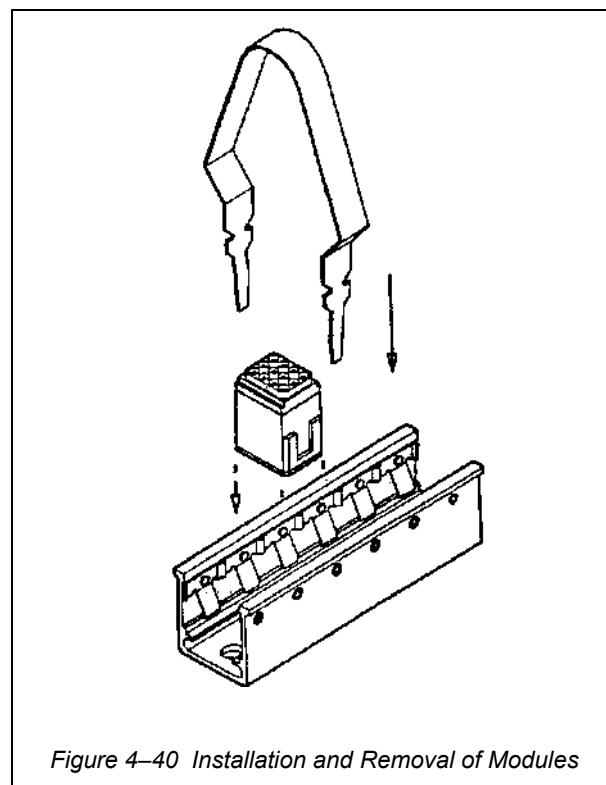

Figure 4-40 Installation and Removal of Modules
97. Series II modules are individually installed, retained and removed. The installation of modules in the track is accomplished as follows (See Figure 4-35 and Figure 4-40):